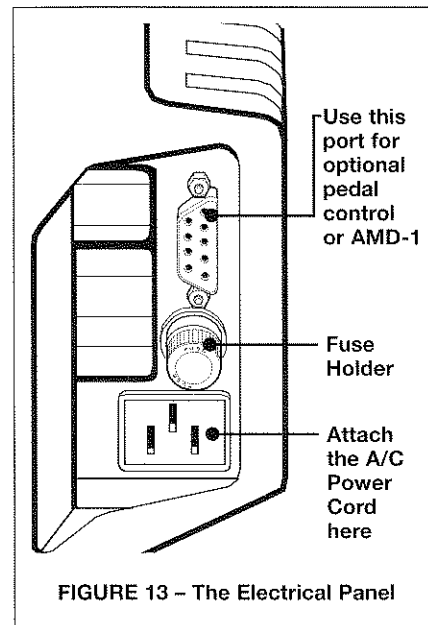

FIGURE 13 – The Electrical Panel
2. Attach the female end of the power cord to the dispenser connector. See Figure 13.